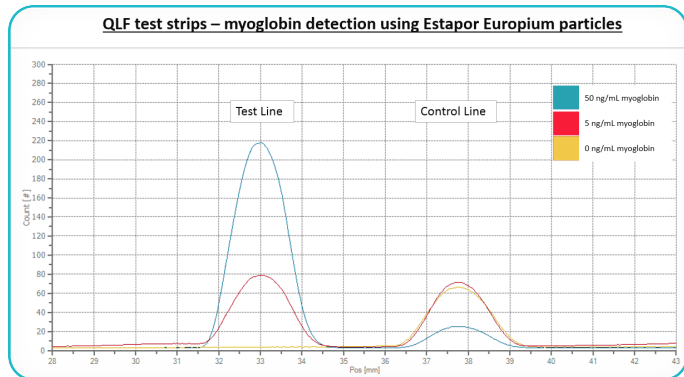

Fig. 6 Myoglobin detection on lateral flow test strips
- Place test strip(s) inside the fluorescent reader. Depending on the reader configuration, you may be able to read multiple test strips simultaneously. The ESEQuant® LR3 reader has the capability to read 3 test strips simultaneously (as illustrated in Fig. 6).